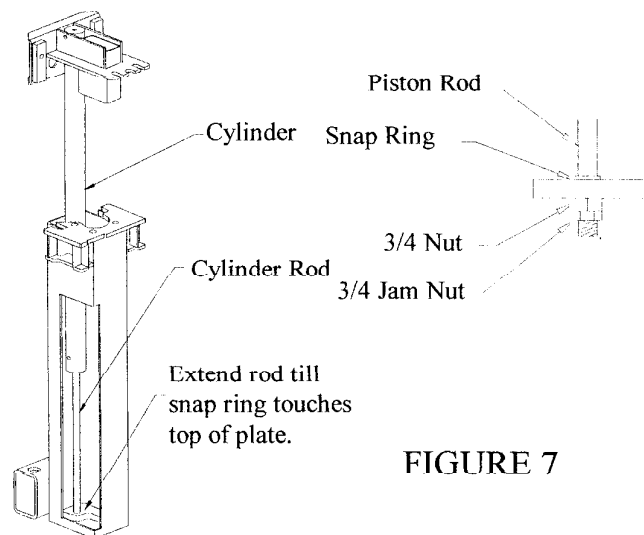

FIGURE 7
9. Pull each cylinder rod down and insert the threaded end into the mounting holes at the carriage base. Make sure the snap ring on the cylinder rod is in its groove. Pull the rod through the hole until the snap ring on the rod comes in contact with the carriage base plate. See Figure 7. Attach a 3/4" NF nut to the threaded rod and tighten until the rod turns. Hold the 3/4" nut with a wrench and tighten a 3/4" NF jam nut against it.